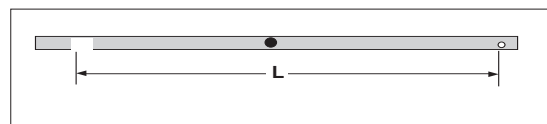

Figure 1 Measuring Tube Length
- ① Measure L , the length of the copper tube at room temperature. Measure from the inner edge of the stainless steel pin on one end, to the inner edge of the angle bracket at the other end (see Figure 1). Record your results in Table 1.